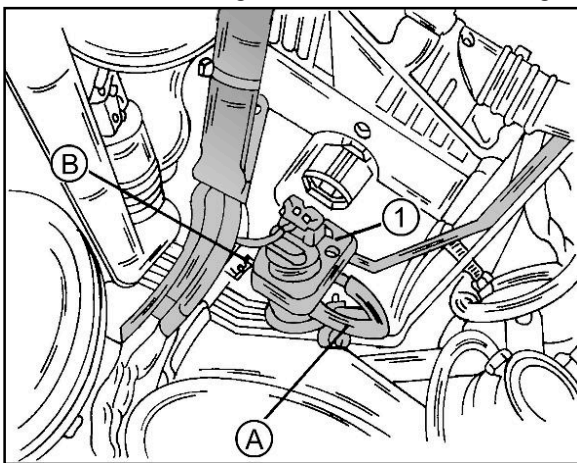

Fig. 1.8 – The location of the changeover valve (1) for the charcoal canister. Disconnect the two hoses (A)
- Refer to Fig. 1.8 and locate the vacuum changeover valve (1) and remove the two hoses (A) and (B). Hose (A) leads to the charcoal canister, hose (B) leads to the engine.